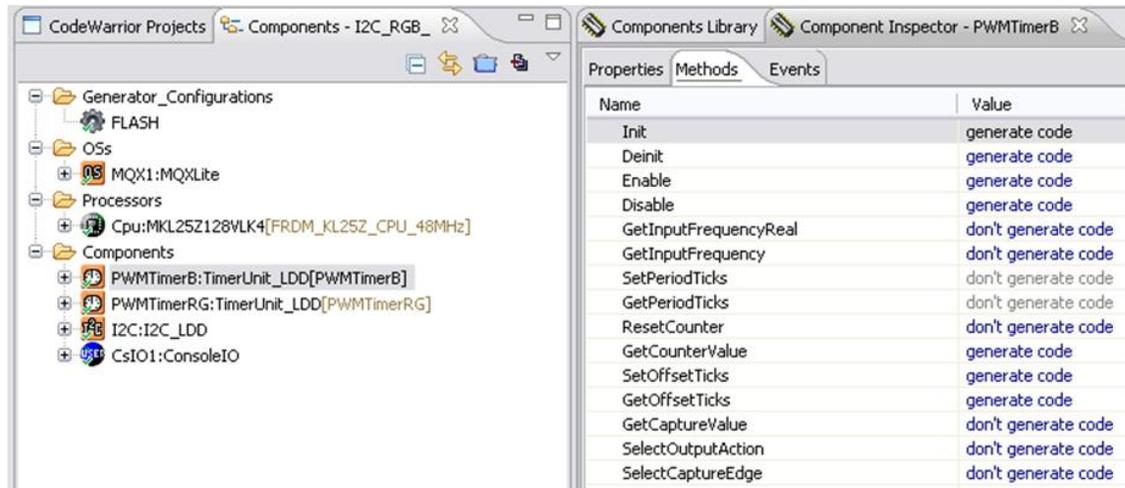

Figure 29. "PWMTimerRG" and the "PWMTimerB" methods creation definition
- For the “TimerUnit_LDD” components it is necessary to define the functions to be added by the auto-generated code. To do this, click in the “Methods” tab under the Component Inspector. These settings shall apply for the “PWMTimerRG” and the “PWMTimerB”. Figure 29 illustrates the right configuration for the methods creation.